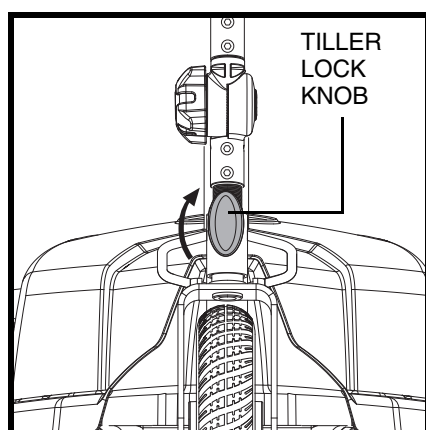

Figure 23. Tiller Lock knob (Locked)
2. Lock the tiller in the straight ahead position by pushing the tiller lock knob in and turning it clockwise 90°. See **figure 23**. The front wheel must face forward in order to lock the tiller.